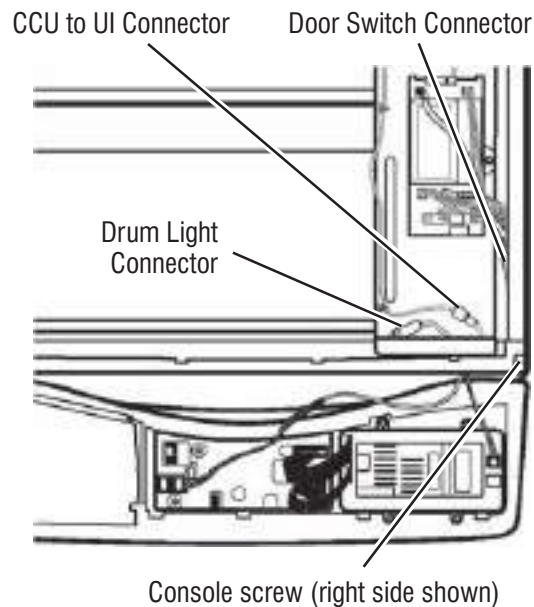

Figure 25 - Remove console.
##### A: Remove Console (Figure 25)
2. Disconnect the drum light harness at the inline connector as shown in figure 25.
3. Disconnect the CCU to UI harness at the inline connection as shown in figure 25.
6. Disconnect door switch connector (See Figure 25, page 23).
10. Disconnect drum light connector (See Figure 25, page 23).